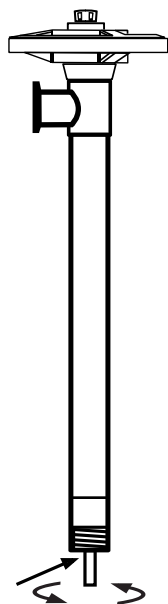

Figure 5
5. Remove the Pump Housing (see Figure 5).